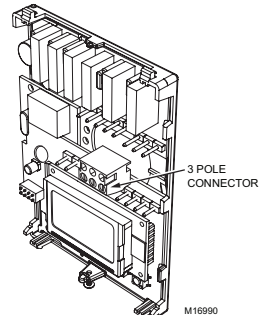

Fig. 4. Re-install terminal block.
13. Install wiring terminal block. (Fig. 4)